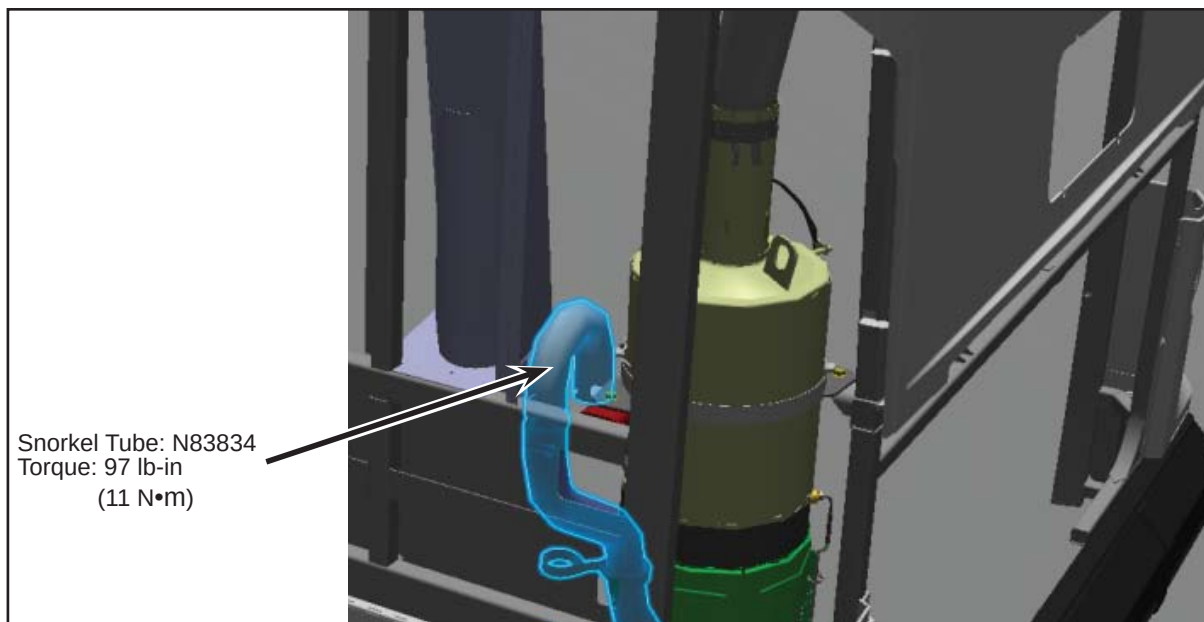

Figure 5 - Installation of Snorkel Tube Assembly N83834 with Torque specification
- 1.6. Install the newly improved N83834 snorkel tube assembly. Use the retained hardware. Tighten the nuts (2) to 97 lb-in (11 N•m) (see Figure 5).